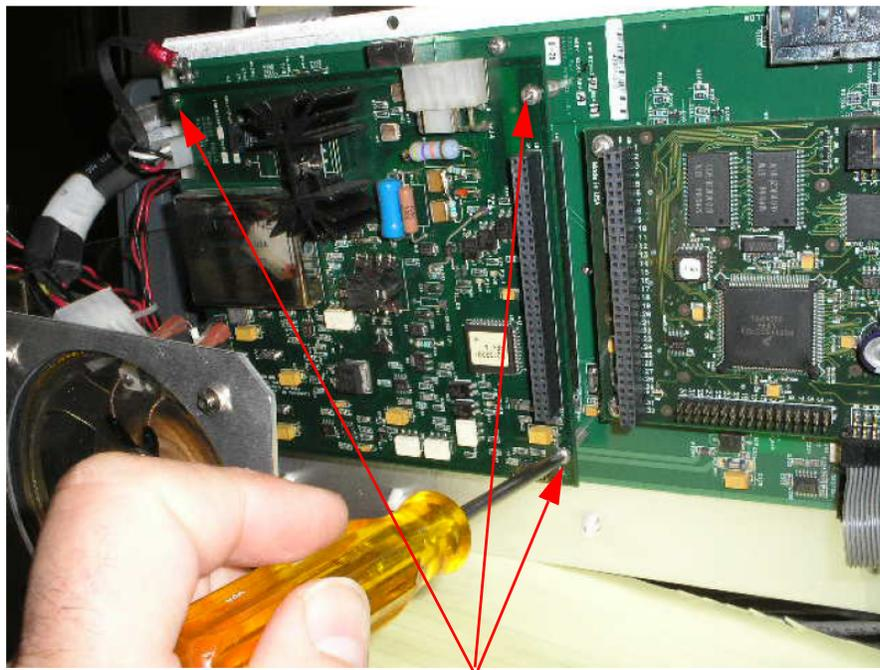

Figure 1-13 Electronics Assembly - Right Hand and Top Screw
- c. Removing the lower right hand, top right and top left hand screws with the electronic subassembly resting in its original position (Figure 1-13).